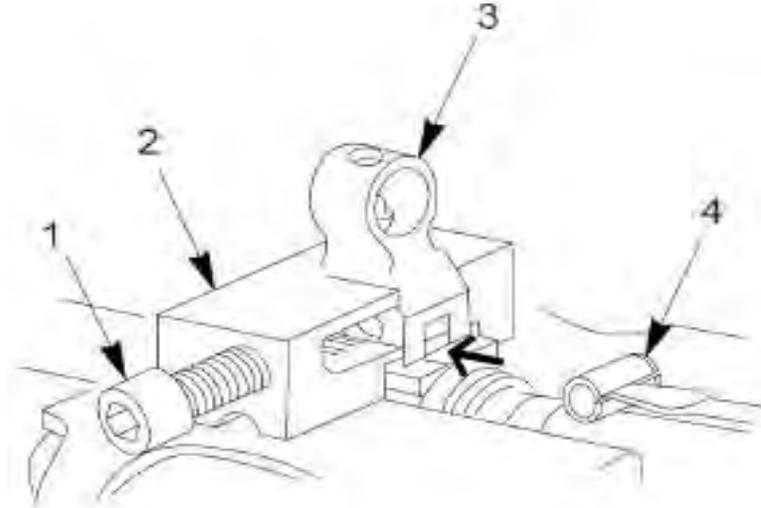

Figure 17. Front Sight Assembly.
4. With slot of new spring pin (Figure 17, Item 4) facing rear of front sight base (Figure 17, Item 3) position into side cutout of front sight assembly tool (Figure 17, Item 2). Hold spring pin (Figure 13, Item 4) in position on, using blade of flat tip screwdriver. By turning screw (Figure 17, Item 1) press spring pin (Figure 17, Item 4) into front sight base (Figure 17, Item 2) until it stops.
5. Backout screw (Figure 17, Item 1) and remove front sight assembly tool (Figure 17, Item 2).
6. Using 5/ 16 inch punch and alternating strikes from top to bottom, to reduce binding, drive in spring pin (Figure 17, Item 4) until pin stops against right side of front sight base (Figure 17,Item 3).